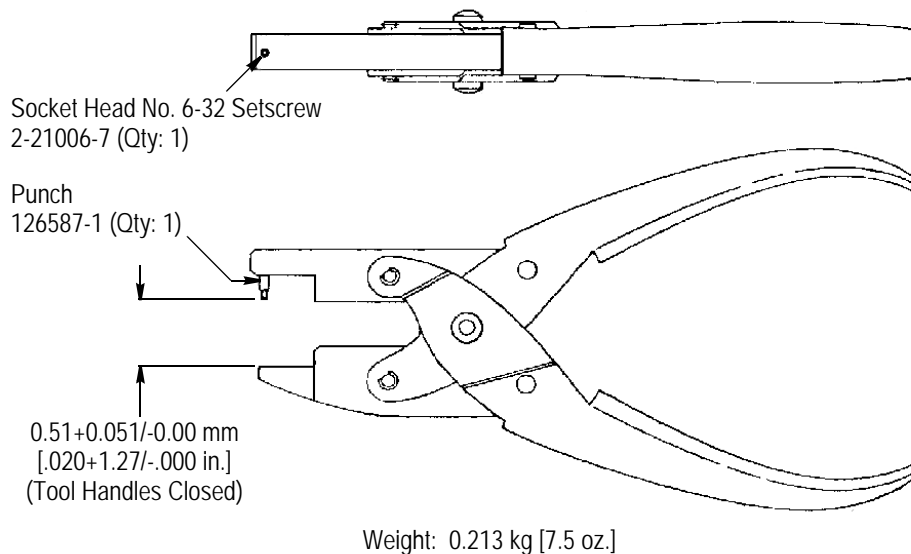

Figure 4
Customer-replaceable parts are listed in Figure 4. A complete inventory should be stocked and controlled to prevent lost time when replacement of parts is necessary. Parts other than those listed should be replaced by TE Connectivity to ensure quality and reliability. Order replacement parts through your representative, or call 1-800-526-5142, or send a facsimile of your purchase order to 717-986-7605, or write to:
- Removed length and width dimensions of tool from and added jaw opening dimension to Figure 4